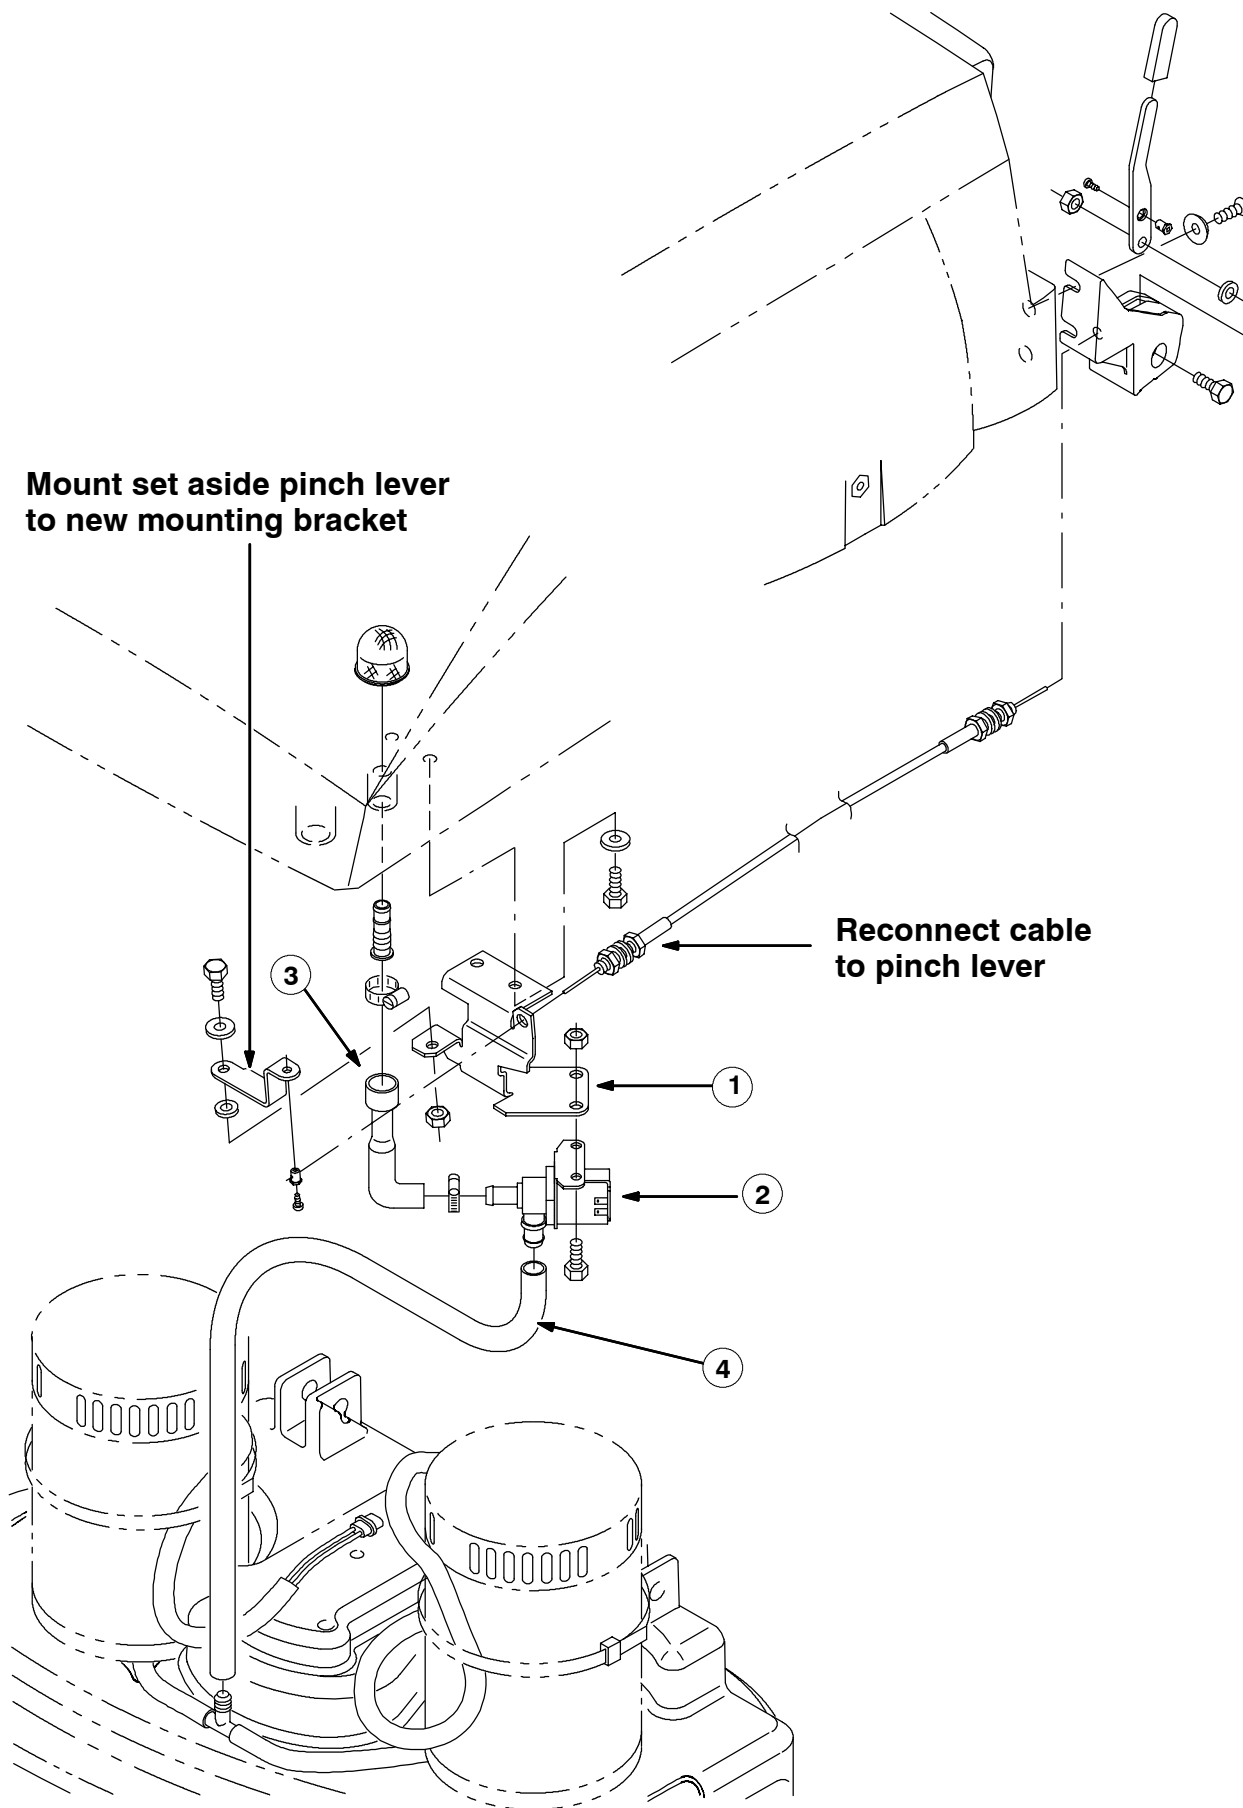

FIG. 2 - New Solution Control Group, 5700
7. Assemble the new solenoid valve (2) to the new mounting bracket (1) with two hex screws and lock nuts. Tighten hardware to 16–20 ft lbs. (Refer to FIG. 2)
8. Mount 90° water hose (3) to the solenoid valve (2) with wormdrive clamp. Hand tighten the wormdrive clamp with 5/16 nut driver. (Refer to FIG. 2)
9. Assemble the set aside pinch lever to the new mounting bracket (1) with a nylon washer (between the lever and bracket), hex screw, flat washer and lock nut. Hand tighten hardware. The pinch lever should move with a slight tension. (Refer to FIG. 2)
10. Mount the new solution valve (2) and bracket (1) assembly to the bottom of the solution tank, in place of the old assembly. Tighten hardware to 16–20 ft lbs. Connect the 90° water hose (3) to the tank with wormdrive clamp. Hand tighten the wormdrive clamp with 5/16 nut driver. (Refer to FIG. 2)
11. Connect the open end of the push pull cable to the pinch lever with the swivel and pan screw. Hand tighten the securing hardware. (Refer to FIG. 2)